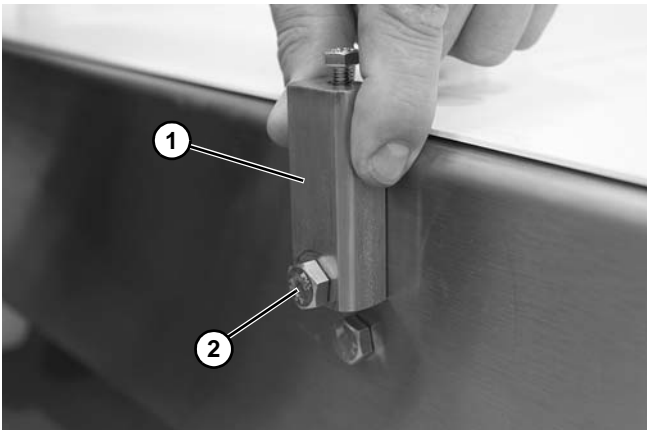

Figure 33
2. Assemble the mounting block (**Figure 33, item 1**) to the conveyor side with the bolt (**Figure 33, item 2**) provided with the mounting block.